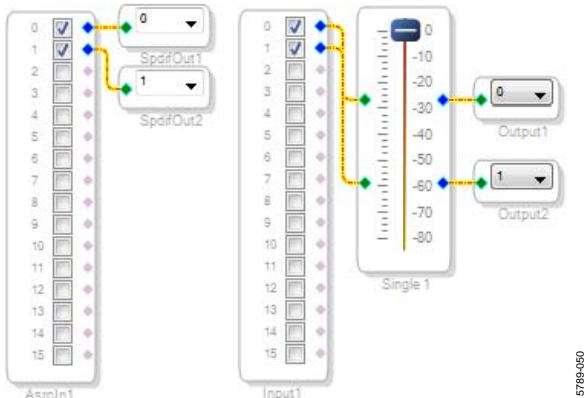

Figure 48. Signal Flow Including S/PDIF Input (via the ASRC) and S/PDIF Output
9. Connect the signals from the **Asrc Input** block to the **Spdif Output** blocks so that the resulting signal flow resembles Figure 48.